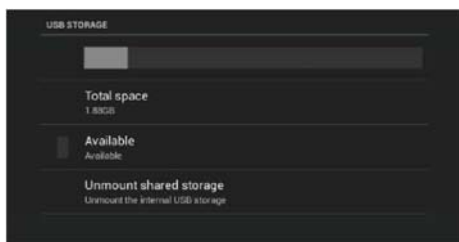

FIG. 16 USB Storage
- If a USB storage option is connected to the panel, the USB Storage section will display the panel's total used space and total available space, as well as give the option to unmount the storage device (FIG. 16).
2. This opens the Unmount USB storage? window (FIG. 16):